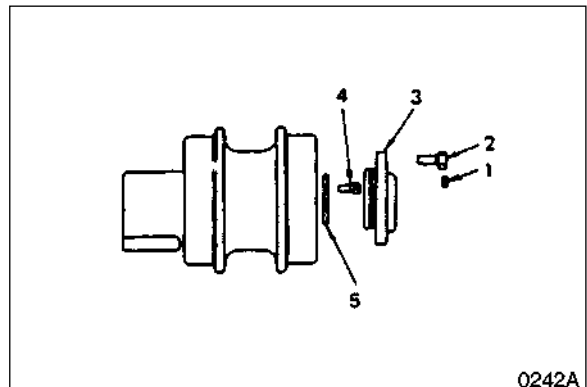

Figure 43
2. Remove the bolts and cover (3, Figure 43). Detach bolts (4) and washer (5).